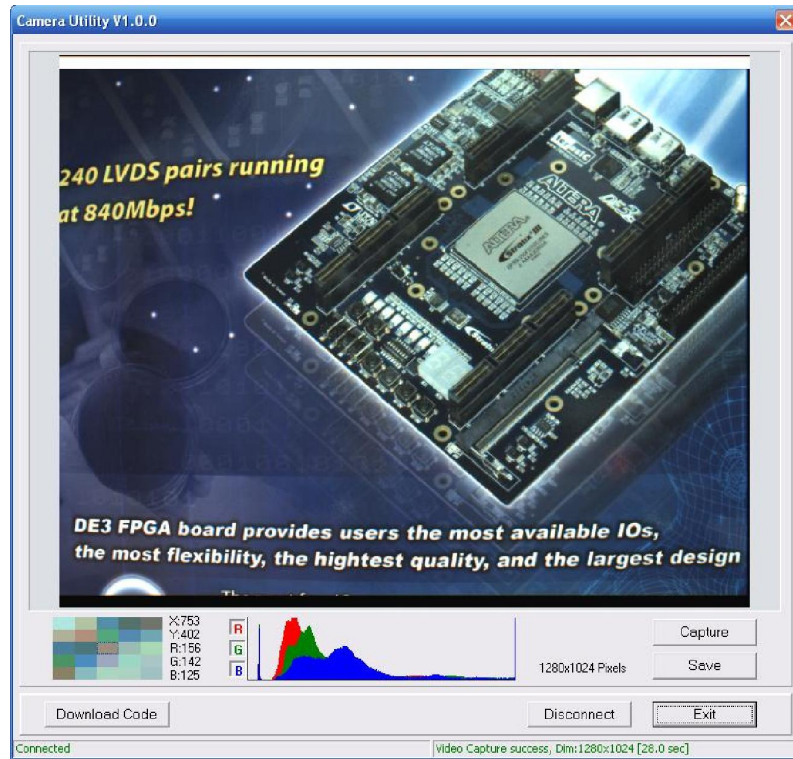

Figure 3.5. The DE2_70_camera tool
12. Users can upload the captured image to PC by clicking the 'Capture' button of the 'DE2_70_CAMERA.exe' as shown in Figure 3.5. Meanwhile, the digital camera is set to photo-taking mode. Press **KEY3** to switch back to